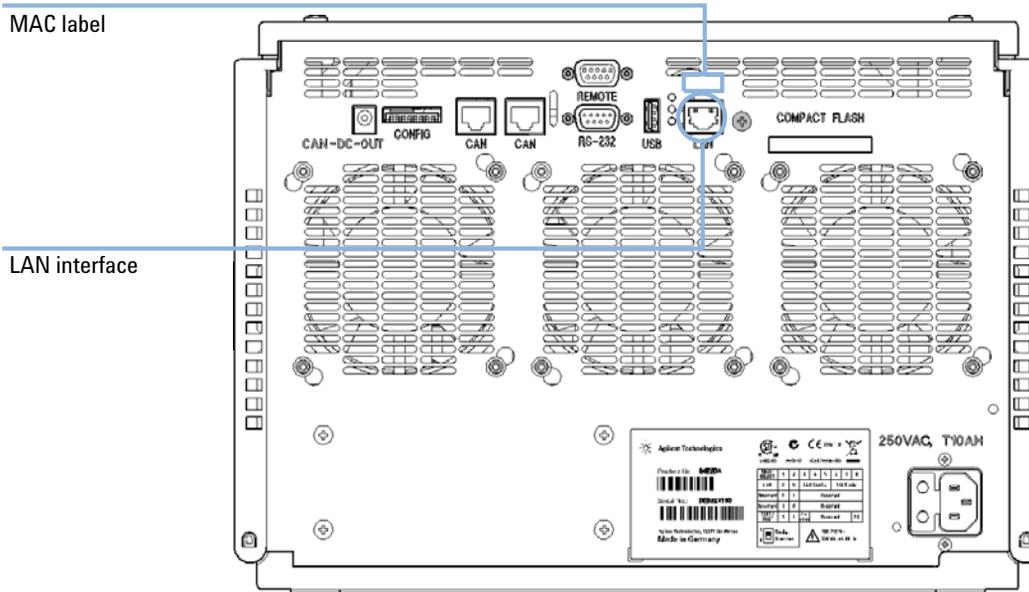

Figure 35 Location of LAN interfaces and MAC label
- 1 Note the MAC (Media Access Control) address for further reference. The MAC or hardware address of the LAN interfaces is a world wide unique identifier. No other network device will have the same hardware address. The MAC address can be found on a label at the rear of the module (see Figure 35 on page 225).
- 2 Connect the instrument's LAN interface (see Figure 35 on page 225) to